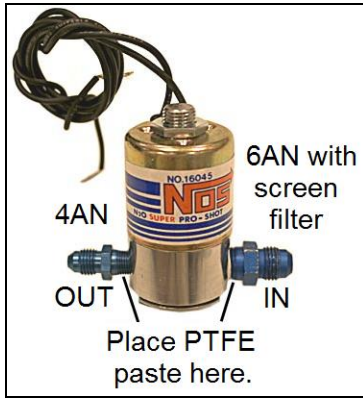

Figure 7
1. Apply a small amount of PTFE thread sealant to the NPT threads of the **nitrous filter** (blue with screen) and insert into the **IN** side of the nitrous solenoid. In a bench vise, tighten at least 1-1/2 turns after finger tight. **(Figure 7)**